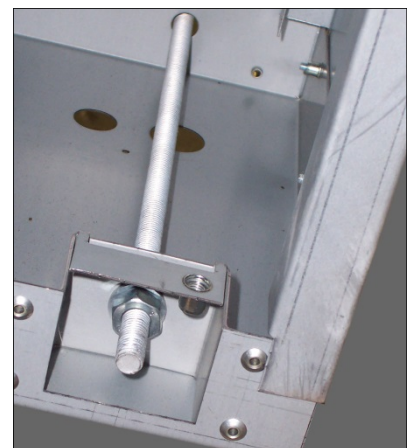

Fig 3
Step 2 Fix M10 threaded rods (not supplied) through the 2 holes at each end in the top casing (see Fig 2). Feed the rods through the casing and attach to fixing brackets near the bottom of the unit (see Fig 3, looking up into the air curtain). Use M10 lock-nuts either side of fixing brackets to secure hanging rods. An additional threaded rod is fitted on a 1.5m unit with two extra threaded rods fitted on a 2m unit, see Appendices 1.